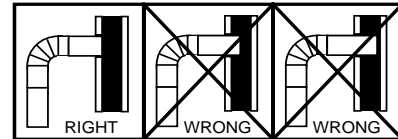

Fig. 8
1. The connection pipe may be pushed into the chimney too far, stopping the draft (Fig. 8).
4. The pipe cannot extend into the chimney flue. (Fig. 8)